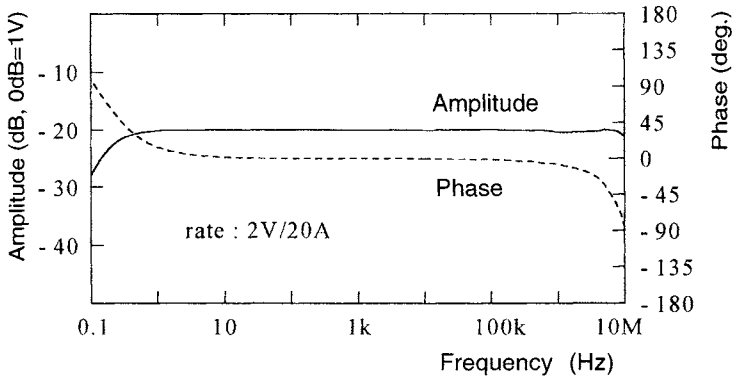

Fig. 3 Frequency Band (Example of Characteristics)
■ Frequency band	0.7 Hz to 10 MHz (-3 dB) (see Fig. 3, example of characteristics)